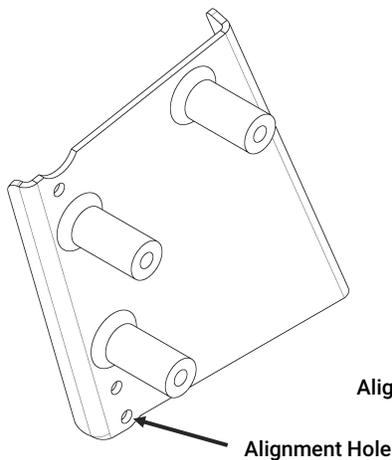
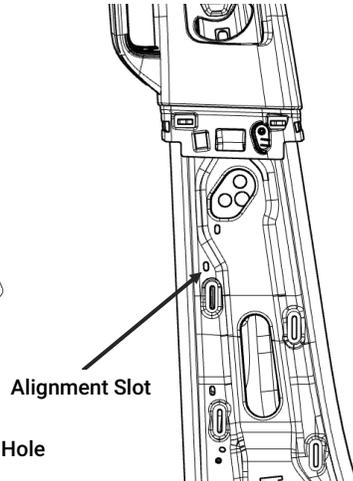

Figure 1a
Figure 1b
- (1) of the [3X162] self drilling screws is used to set the height of the bracket. Insert a screw through the lowest hole on the bracket (Fig 1a) and into the slot that the wire clip was removed from in Section III Step D (Fig 1b). The screw should be in the very bottom of the slot.